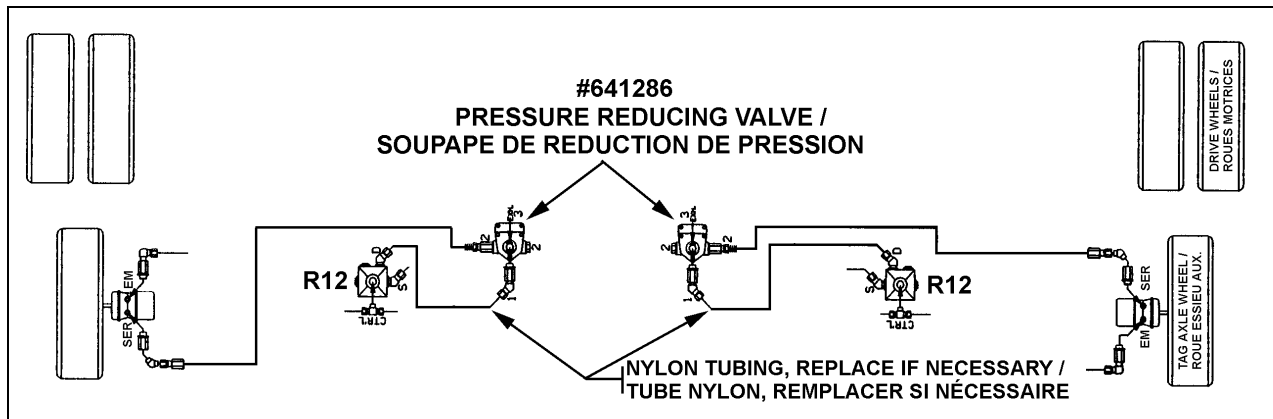
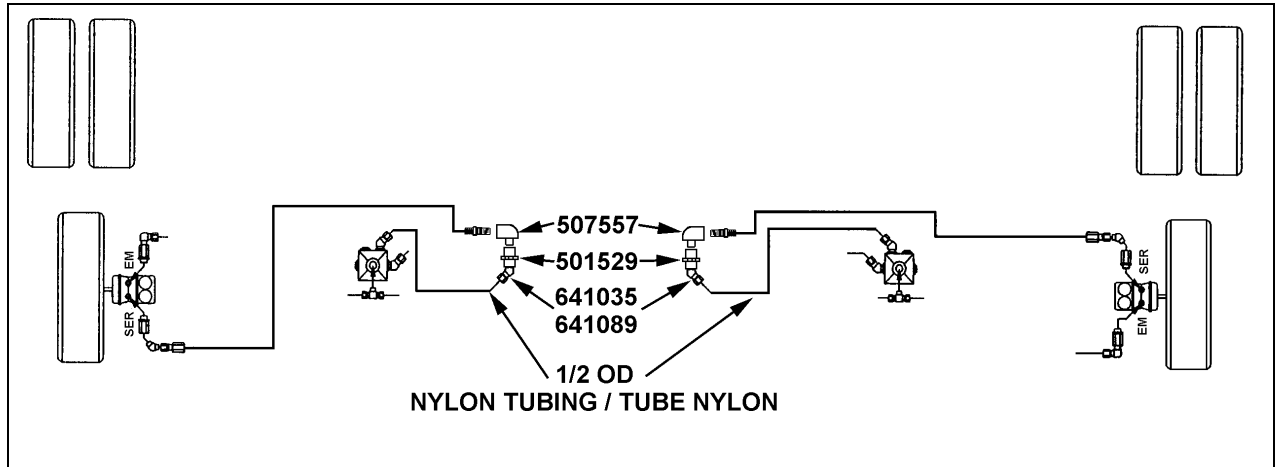

FIGURE 1 : LOCATION OF PRESSURE REDUCING VALVES ON TAG AXLE BRAKING SYSTEM
FIGURE 2 : FITTING ASSEMBLIES
2. From underneath vehicle, locate both tag axle pressure reducing valves (figure 1).
4. Assemble two fitting assemblies with parts #507557, #501529, #641089. Use Loctite 567 thread sealant on NPT type thread (pipe thread) (figure 2).
5. If necessary, remove and replace both ½ OD black nylon tubing between pressure reducing valve and R12 relay valve (figure 1) with ½ OD nylon tubing included in kit. Use the new sleeves #641035 (figure 2).